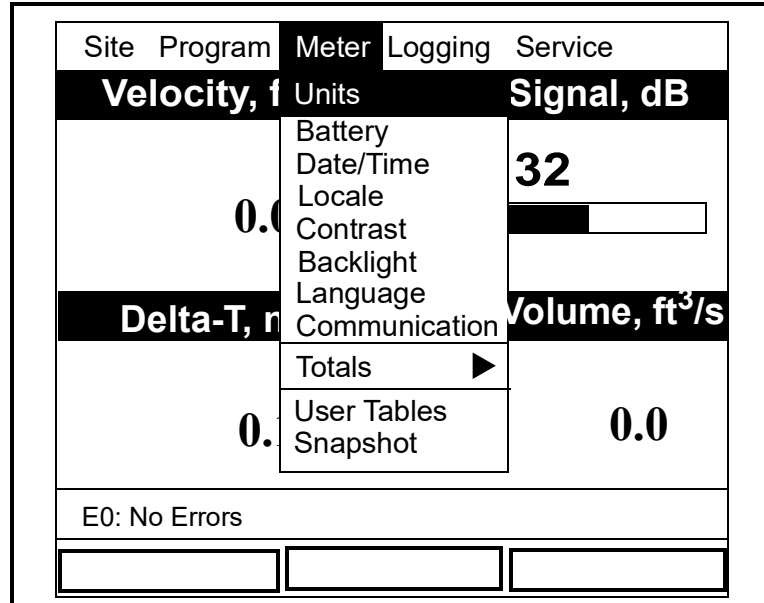

Figure 103: The Meter Menu
To enter the Meter Menu, press the **[MENU]** key at the lower right of the PT878GC keypad. The Main Menu replaces the Status Bar at the top of the screen. Press the **[▶]** arrow key twice to scroll from the Site Menu to the Meter Menu. At the Meter Menu, press **[ENTER]**. The screen appears similar to Figure 103 below. While programming, refer to Figure A-8 on page A-8 of Appendix A, *Menu Maps*.
1. From the Meter menu, scroll to the Date/Time entry and press **[ENTER]**. The Meter Settings window reopens, as shown in Figure 103.